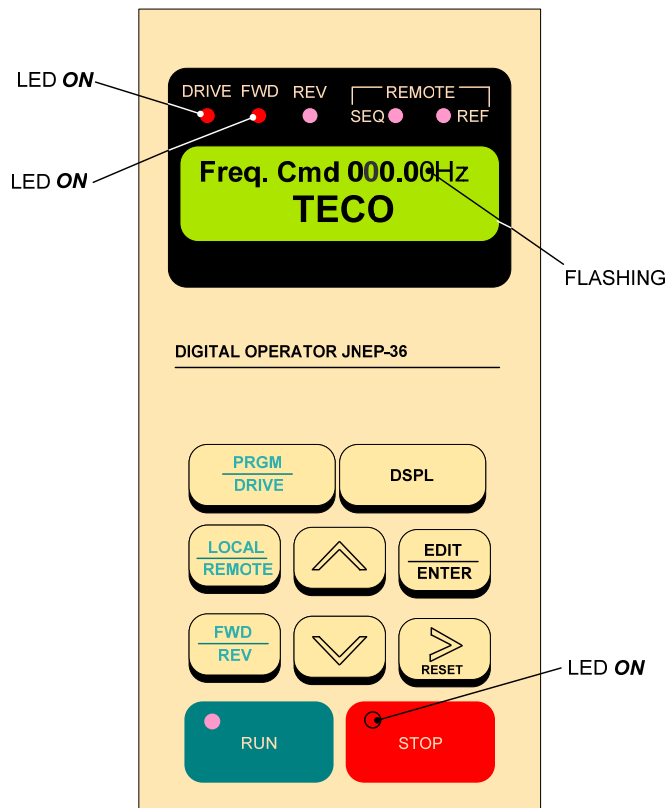

Fig. 2.6.1 MA7200 PLUS Digital Operator
- Apply AC power to the Inverter and observe the LCD Display Line 1. It should read; “**Freq. Cmd 000.00Hz**”. Line 2 should read; “**TECO**”. The red LED on the **STOP** key should be **ON**. The **DRIVE** and **FWD** LED's should be **ON**. (See Fig. 2.6.1 below)